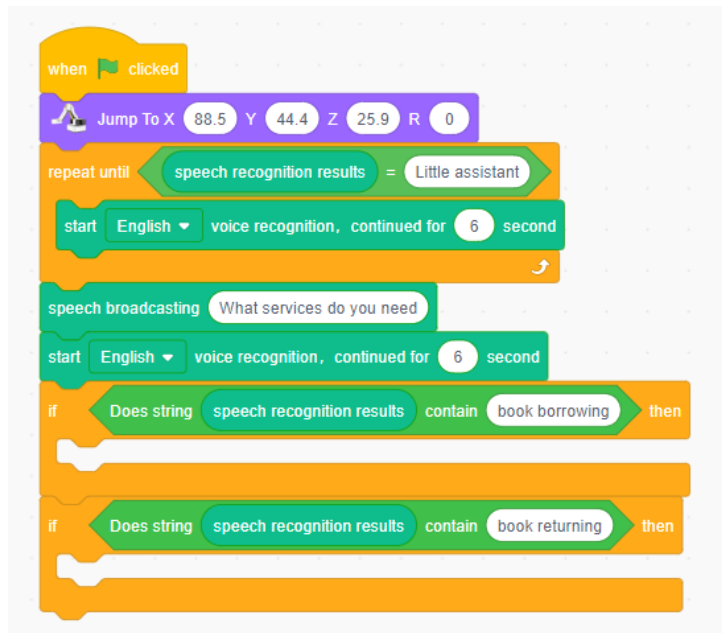

Figure 5.31 Determining whether to borrow or return books
Step 6: Choose book borrowing or book returning service by voice, as shown in Figure 5.31.